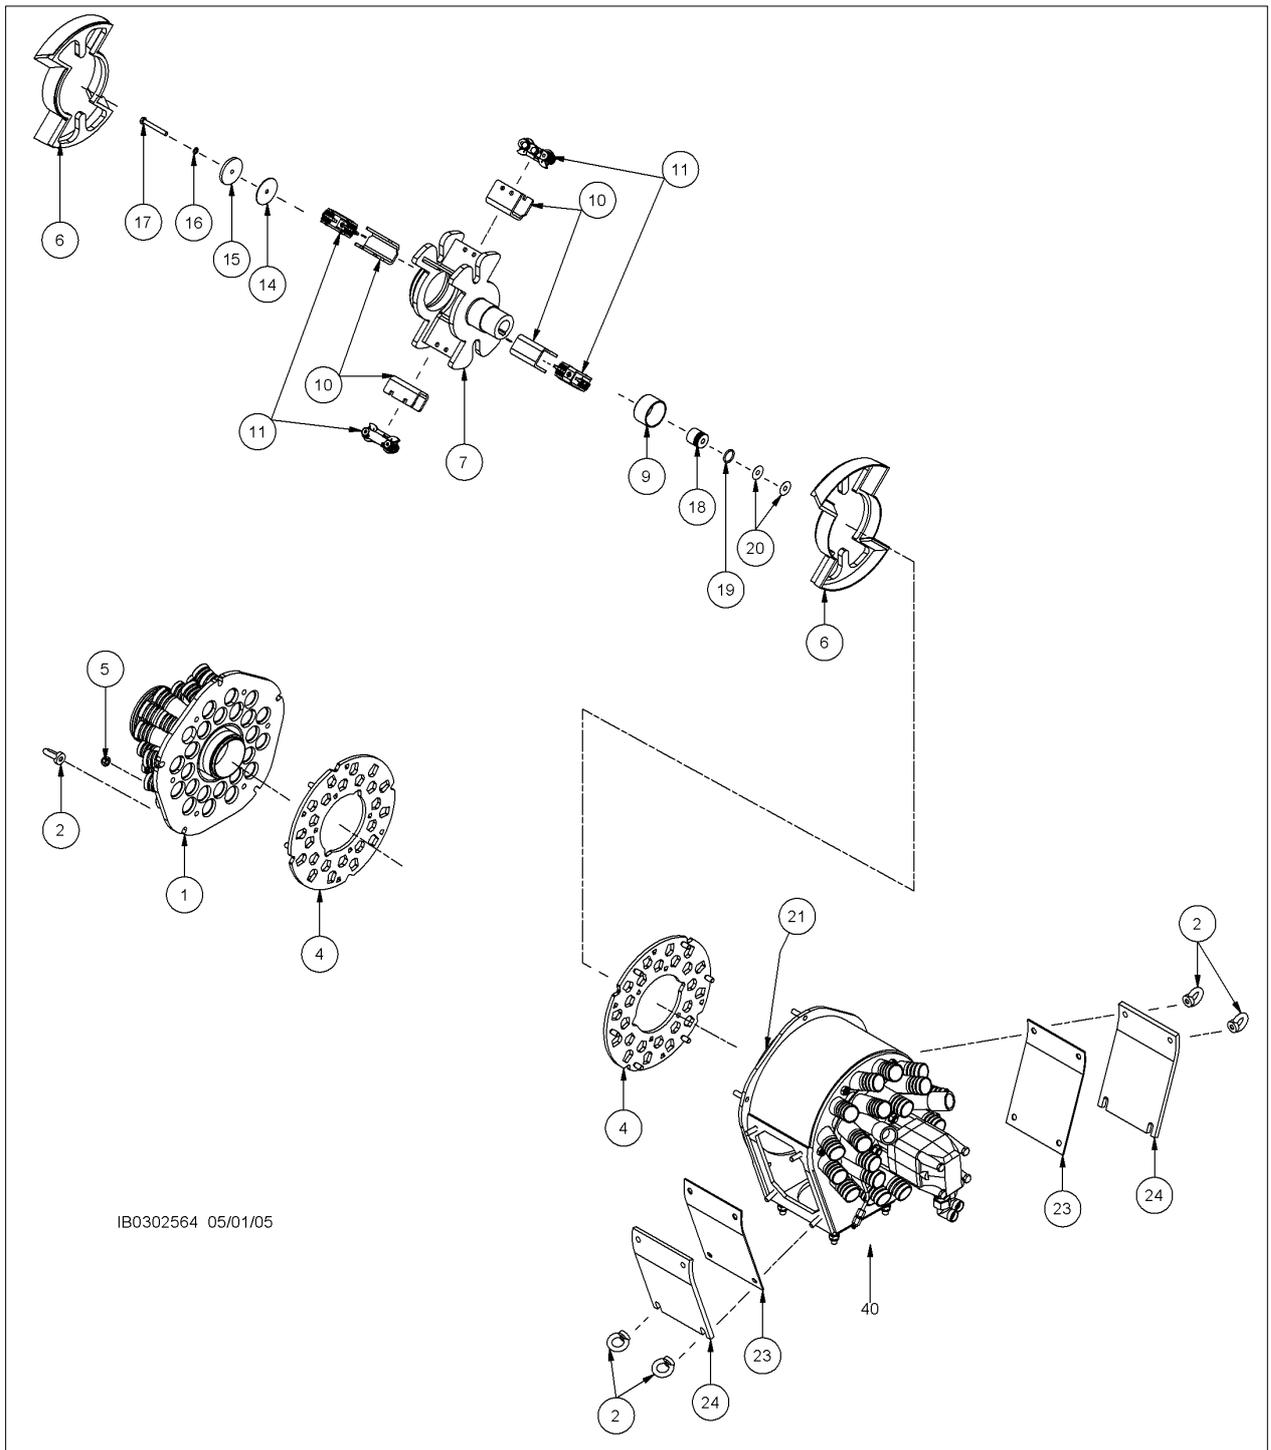

Fig. 5.2
(see the following figure 5.2, pos. 1-40)